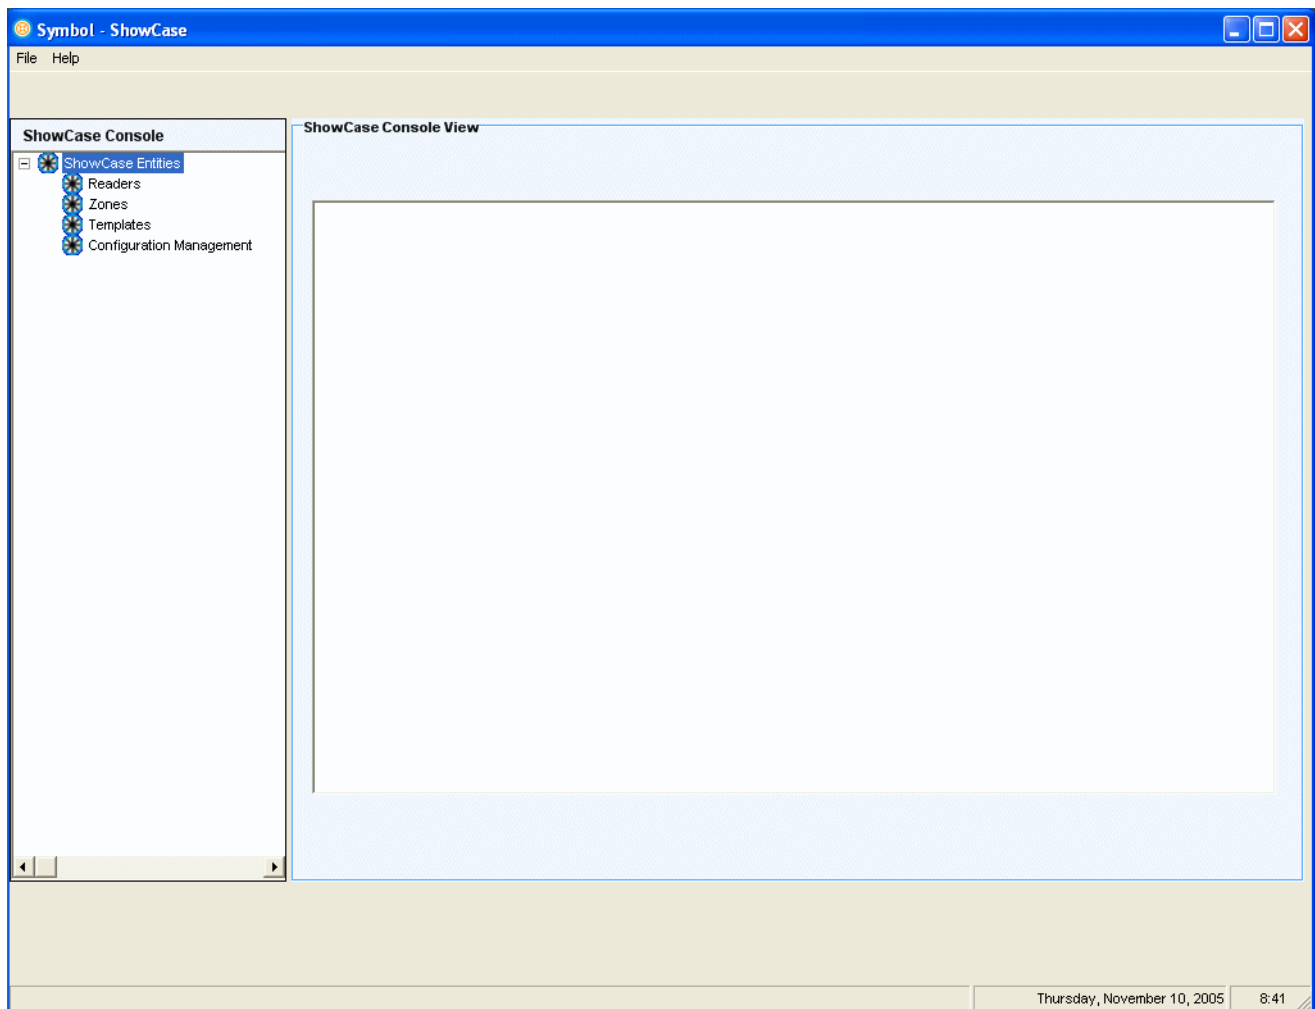

Figure 3-1. ShowCase Console View
1. From the *ShowCase Console View* (see Figure 3-1 on page 3-5) click Readers, the *All Readers* screen appears.
1. From the *ShowCase Console View* (see Figure 3-1 on page 3-5) click Zones, the *Zones* screen appears.